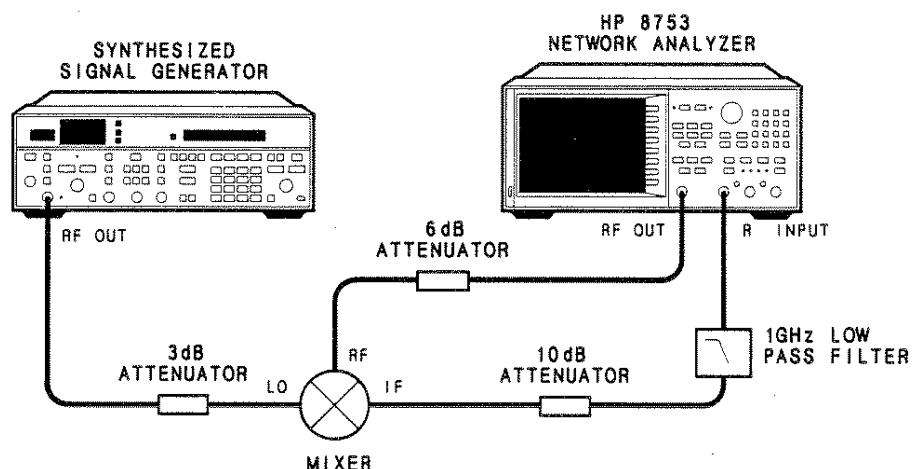

Figure 14-5. Typical Test Setup for a Frequency Offset Measurement
Figure 14-5 shows a typical test setup using frequency offset mode. Instructions are provided in *Using Frequency Offset Mode*. The attenuators shown reduce mismatch uncertainties. The low pass filter keeps unwanted mixing products out of the HP 8753B sampler.
1. Press [**RESET**] on the front panels of the HP 8753B and local oscillator (LO) source.
2. Press [**FREQ OFFS on OFF**] to activate the frequency offset mode. Connect the equipment as shown in Figure 14-5.